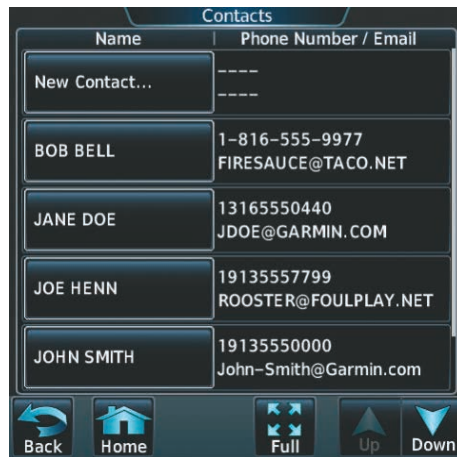

Figure 8-59 Enter Email Address
13) Touch **Create**. The new contact is created and appears in the list of contacts as shown in Figure 8-59.